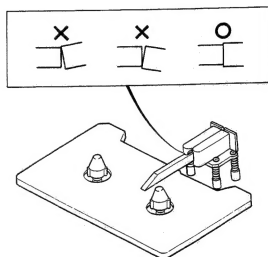

Fig. 4-5
3. Apply jig B to the head as shown in Fig. 4-5, to check tilt. If necessary, adjust screws E and F evenly (until the head is flush with the jig). Rotational amount of both screws E and F should be the same and be limited within 1/8 turn.
- 3). 図4-5の様に治具Bをヘッドに当てて、チルトを確認しヘッドが治具に対して垂直になる様に、ネジE, Fを同量(1/8回転以下) 回し調整する。
8. Apply jig B to the head as shown in Fig. 4-5, to check tilt. If necessary, adjust screws A and B *evenly* (until the head is flush with the jig). Rotational amount of both screws A and B should be the same and be limited within 1/4 turn.
8). 図4-5の様に治具Bをヘッドに当てて、チルトを確認しヘッドが治具Bに対して垂直になる様にネジA、Bを同量(1/4回転以下) 回し調整する。